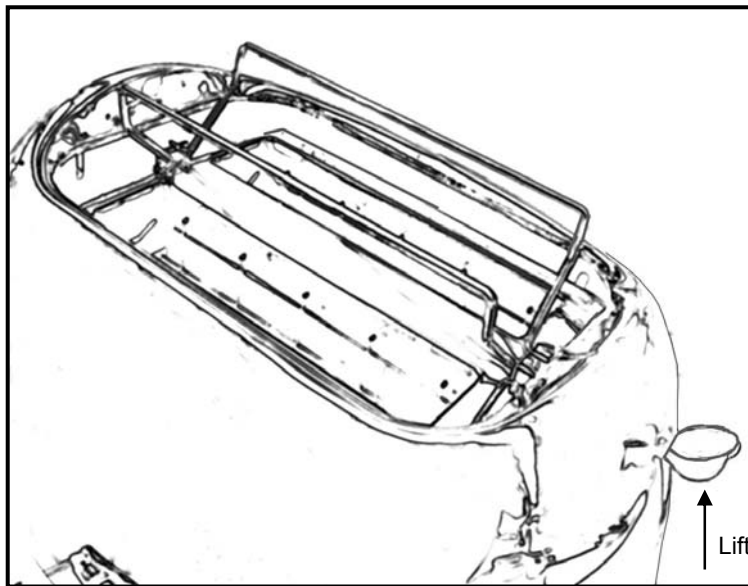

Fig. 1
1. Lift Bun Warmer Lever (13). (Fig. 1)
2. Center the food on the Bun Warmer Rack (12).
3. Set the Browning Control Knob (2) to position 4-5 for crisping or lower for warming.
4. Press down the Bread Carriage Lever (3). The Power On Light (9) will come on.
5. When cycle is completed, carefully remove the crisp/warm food from the Bun Warmer Rack (12).
6. Lower the Bun Warmer Rack (12) by pressing the Bun Warmer Lever (13) down when finished using and during regular toasting. The Bun Warmer Rack (13) should be at the rest position when toasting bread in the Bread Slot(s) (1). Never put bread in the Bread Slot(s) (1) while heating buns on the Bun Warmer Rack (12).